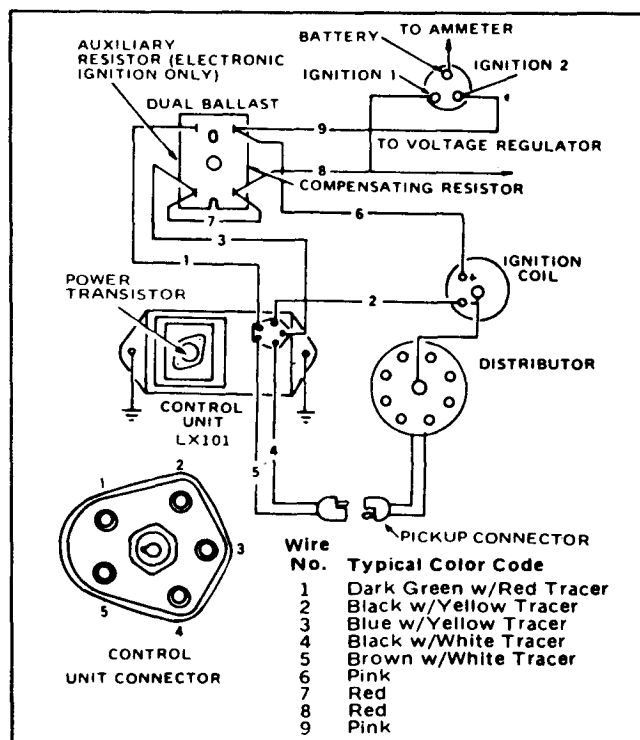

FIG. 22-WIRING TO CONTROL UNIT
5. Check for a good ground by connecting an ohmmeter from a good chassis ground to pin 5 on the control unit connector. See Fig. 22 for connector pin numbers. The ohmmeter should read 0 ohms. It may be necessary to scrape away paint to get a good connection.